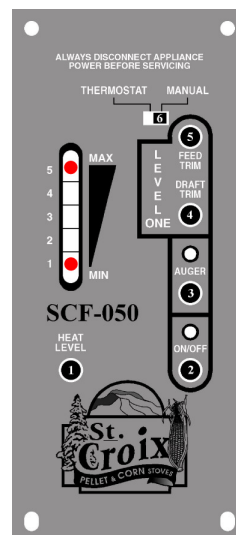

Figure 4
- c. The first and fifth LED lights indicate the #1 **High** setting. (1.50 second on time) This is the lowest Pilot setting and may be used when heating a small size home where minimal heat is needed when the unit is running in pilot mode. (See figure 4)